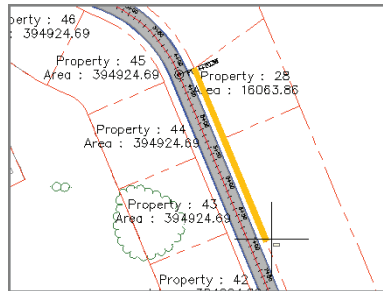

FIGURE 12.18 Defining the frontage for the parcel-editing command
8. Move your cursor southward along the right-of-way line, and click somewhere near station 7+00 (0+210), as shown in Figure 12.18.